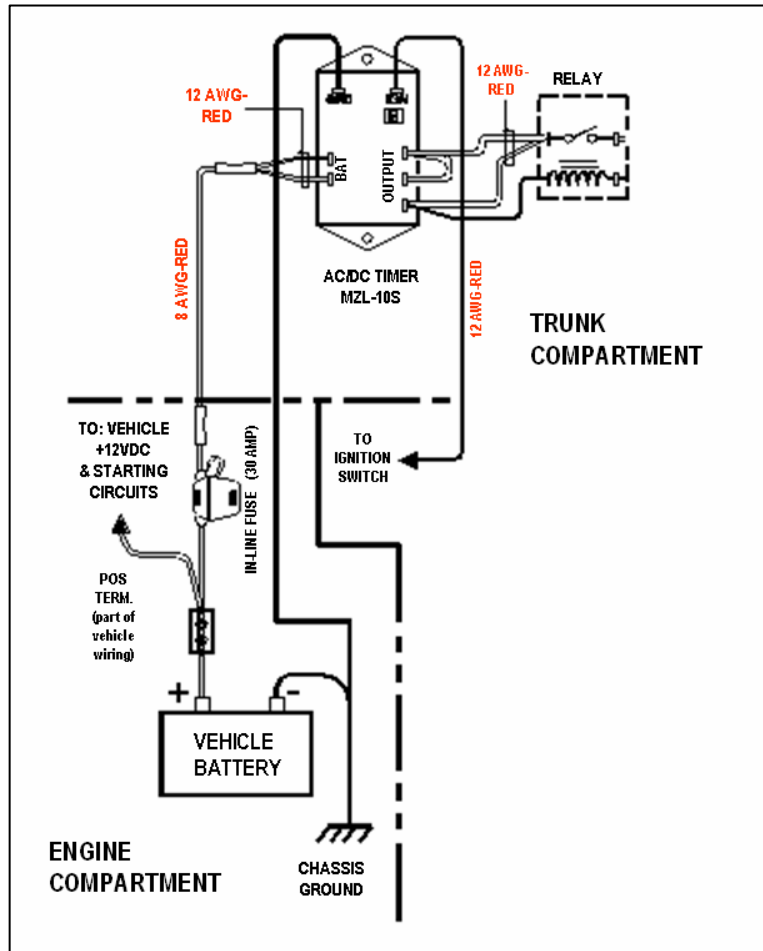

Figure 9: Delay Timer Installation
- Step 2** Route the black wire (#12 AWG) from ground connection on the Delay Timer to the vehicle chassis (see Figure 9).